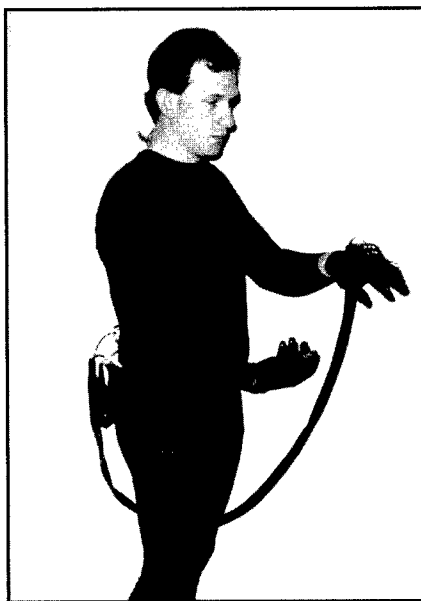

Figure 1. PK-SUIT with two PK-Gloves
A new modular technology has been developed to support the need for high-performance relative position measurement of the human body and mechanical apparatus in dynamic applications. Multi-channel sampling rates of up to 1000 Hz each are possible. The PhysioKinetics (PK) goniometer platform is a wearable line of systems and devices providing user-friendly, versatile, high-performance measurement and control inputs at an affordable cost. It is designed for wide applications and unlimited configurations, from ankle position input to head tracking in high performance aircraft during high "G" maneuvers. Analog magnetic sensors provide the basis for this capability. These systems can be configured to measure from 1 to 88 different human joints, and offer low noise susceptibility, reliable data collection, high resolution, instant graphic representation, and many data communication options. A typical PK system is shown in Figure 1.